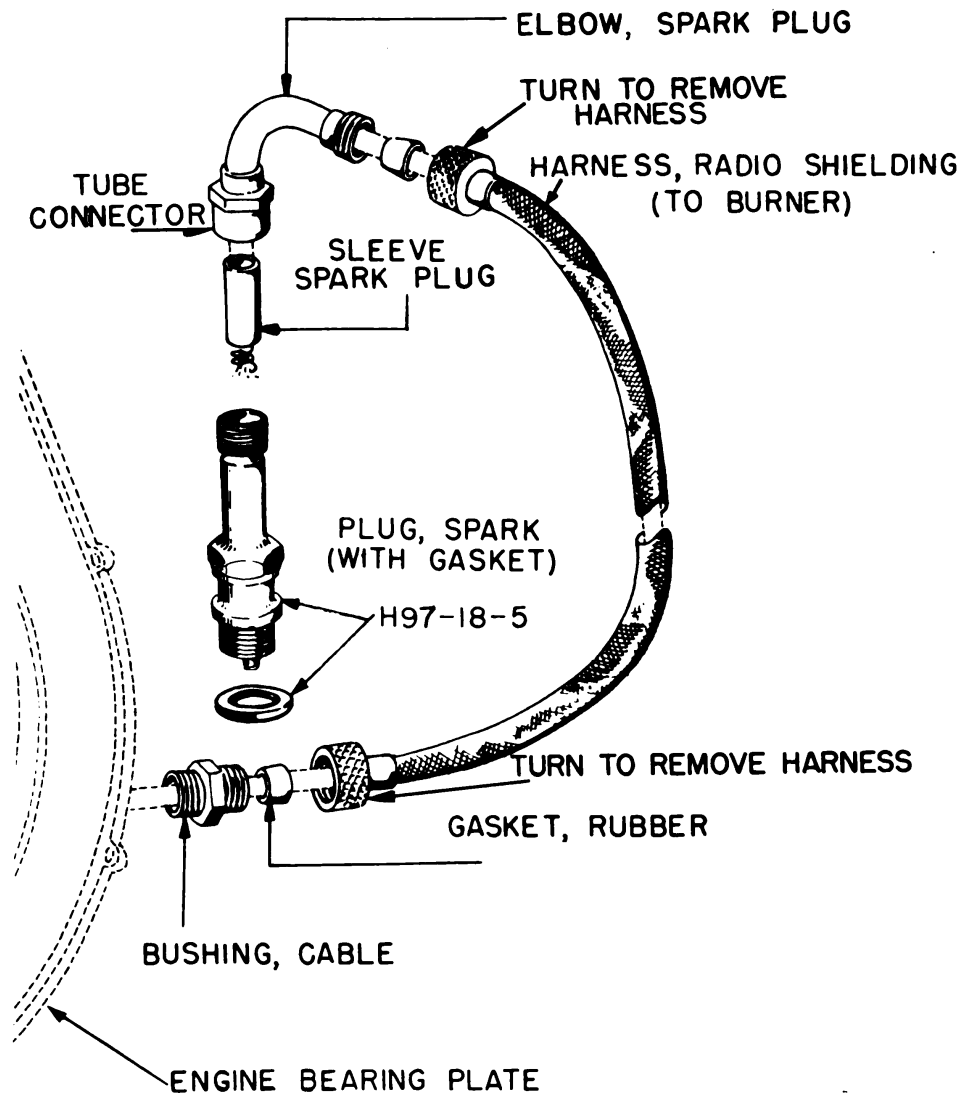

Fig 47. Radio shielding cable harness and related parts.
g. Loosen tube connectors at engine and burner spark plug elbows and withdraw spark plug sleeves. (Fig 47)
h. Remove both spark plug sleeves by pulling them off spark plug cables. (Fig 47)
i. Loosen radio shielding harness unions at spark plug elbows with pliers, and pull spark plug cables back through elbows, dislodging rubber gaskets in order to free cables of elbow fittings. (Fig 47)
j. Loosen harness unions at cable bushings near rear side of engine bearing plate, dislodge rubber gaskets nearest bearing plate, and strip radio shielding harnesses from both spark plug cables. (Fig 47)
c. **Testing magneto.** To test magneto, loosen pipe union on engine spark plug elbow and withdraw spark plug sleeve from spark plug (fig 47). Hold coil spring on end of sleeve about 1/8 inch from steel body of plug and give ready pull-starter a few pulls as in starting generator. If spark occurs, magneto is functioning correctly.